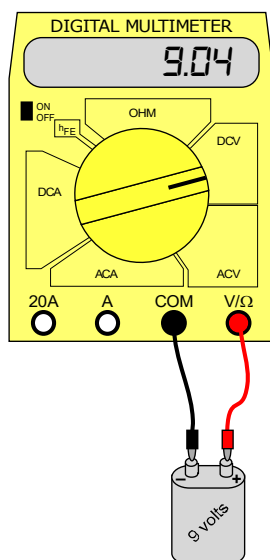
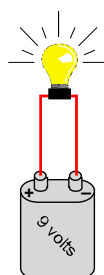
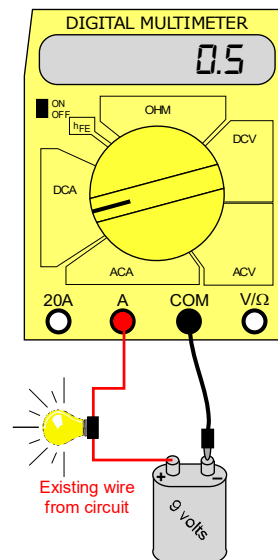

Figure 3
Figure 4
Figure 5
When the multimeter is used as a voltmeter or an ohmmeter, you will insert *two* wires into the meter: one in the **COM** port, the other in the **V/Ω** port, as shown in Figure 3 below. Turn the knob to the appropriate setting and voltage type before touching the circuit component (e.g. a battery or resistor). In Figure 3, the voltage across a 9-volt battery is being measured. Note the orientation of the meter wires with respect to the positive and negative terminals of the battery; reversing the meter wires will produce a negative voltage reading. The meter wires will be connected in the same manner to measure the resistance of a circuit component.
Figure 4 shows a simple circuit consisting of a battery and a bulb. Configuring the multimeter as an ammeter will allow you to measure the current through this circuit. Do this by inserting *only one* wire into the meter; Figure 5 shows a third wire in the **COM** port. Using a single wire in the meter reminds you that you have to open the circuit up and insert the free wire into the **A** port. In Figure 5, a black meter wire is connected to the **COM** port, and touches the negative battery terminal; the red wire was disconnected from battery and connected to the **A** port (note that the battery polarity in Figures 4 and 5 has been reversed from Figure 3 in order to simplify the picture!).
- a. *Measure the voltage of a 9-volt battery:* Set the multimeter to the “20 DCV” setting so that the meter will measure DC voltage. Touch the red meter wire to the positive terminal of the battery, the black meter wire to the negative terminal and record the value (see Figure 3). Reverse the wires on the battery (red to negative terminal, black to positive), record the measured value and note the difference. (*Note:* you’ll be measuring a used battery, so the measured voltage may be lower than expected!)